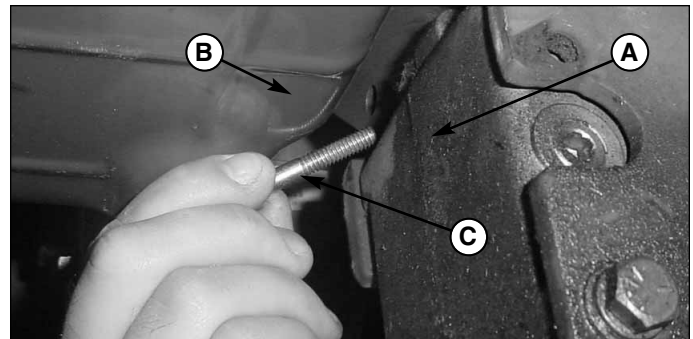

Figure 1. Check Gearbox & Oil Pan Clearance
2. Check the clearance between the gearbox and the engine oil pan (see Figure 1).